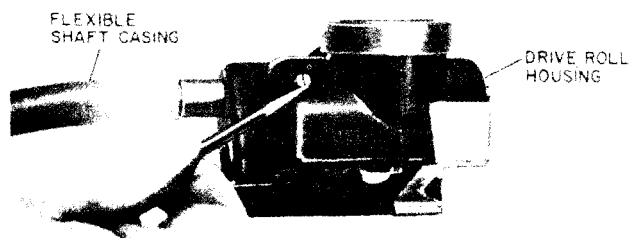

Figure 6. Removing Anchoring Screw for Flexible Shaft Casing
- c. Remove protective caps from the flexible shaft and push square shank-end into casing (Fig. 6) to expose the tapped fitting at the other end.